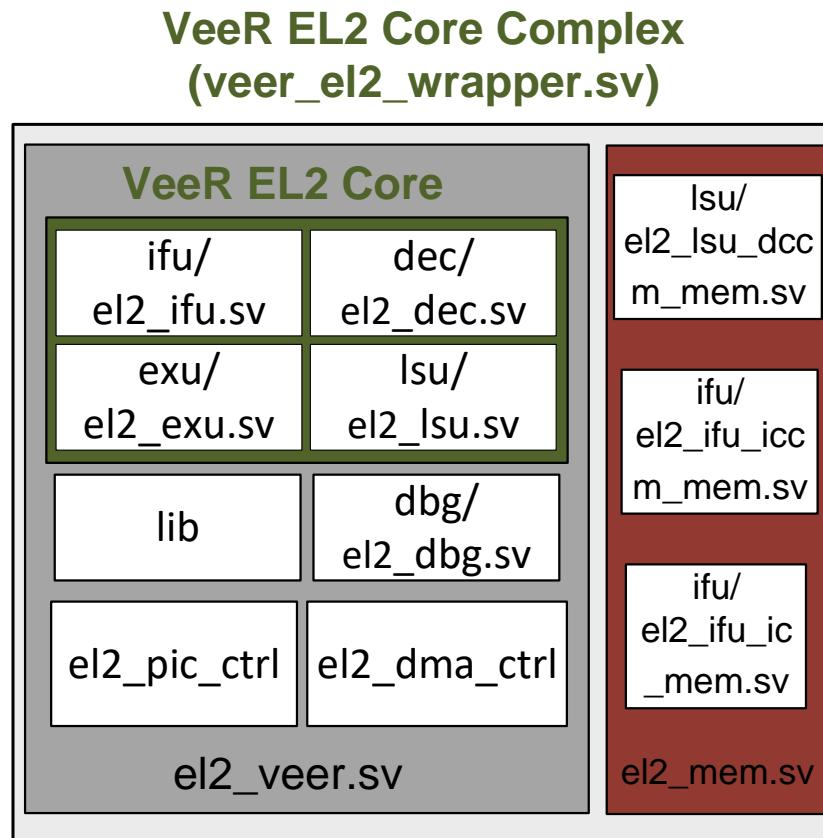

Figure 15. VeeR EL2 Core Complex
Figure 15 shows the file structure of the **VeeR EL2 Core Complex** (Figure 4). The core is organized into three main blocks: a VeeR wrapper (highlighted in grey) that includes the VeeR EL2 Core (highlighted in green) and some other elements (such as the Interrupt Controller or the Debug Unit), and the Data/Instruction memories and Instruction Cache (highlighted in red).
The top file for the VeeR EL2 Core Complex is in the file: `veer_el2_wrapper.sv`; the top module is called `veer_el2_wrapper`, and it instantiates two modules that correspond to the two blocks highlighted in grey and red in Figure 15:
The VeeR EL2 Core (highlighted in green in Figure 15) consists of the following four units:
- **veer_wrapper_dmi** (available inside *VeeR_EL2CoreComplex/veer_el2_wrapper.v*): instantiation of VeeR EL2 Core Complex, described in the previous section (Figure 15).